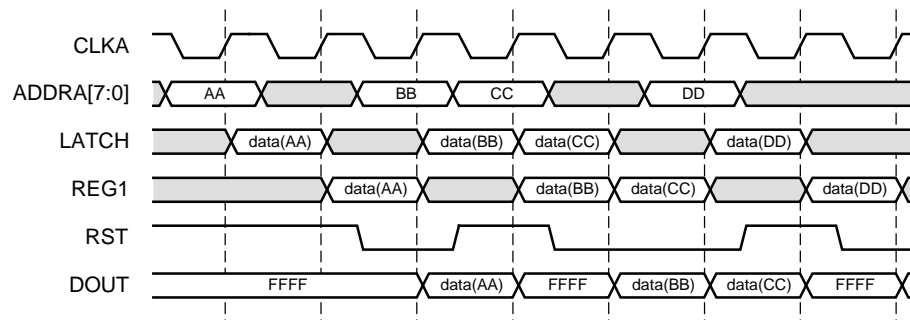
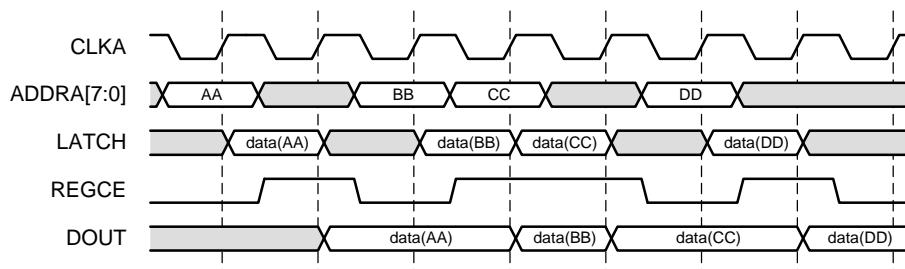

Figure 37: Flow Control Using RST
Figure 38: Flow Control Using REGCE
The combination of the enable (EN), reset (RST), and register enable (REGCE) pins allow a wide range of data flows in the output stage. Figure 37 and Figure 38 are examples on how this can be accomplished. Keep in mind that the RST and REGCE pins apply only to the last register stage.
Figure 37 depicts how RST can be used to control the data output to allow only intended data through. Assume that both output registers are used for port A, the port A reset value is 0xFFFF, and that EN and REGCE are always asserted. The data on the block RAM memory latch is labeled LATCH, while the output of the block RAM embedded register is labeled REG1. The output of the last register is the output of the core, DOUT.
Figure 38 depicts how REGCE can be used to latch the data output to allow only intended data through. Assume that only the memory primitive registers are used for port A, and that EN is always asserted and RST is always deasserted. The data on the block RAM memory latch is labeled latch, while the output of the last register, the block RAM embedded register, is the core output, DOUT.